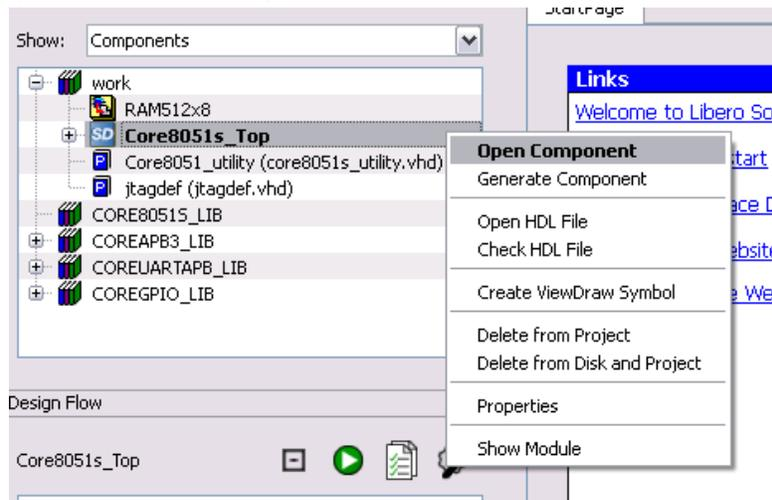

Figure 6 Open Top Level Component
- Right-click the top level SmartDesign component (for example, Core8051s_Top) and select **Open Component**, as shown in Figure 6.